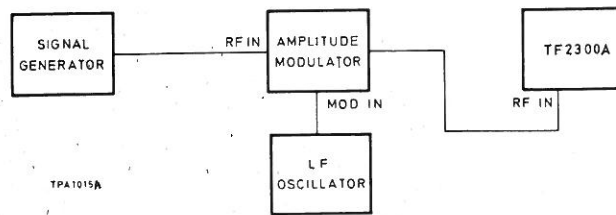

Fig. 4.7 A.M. rejection measurement
- (1) Set up the equipment as shown in Fig. 4.7. Adjust the signal generator to give a c. w. output of 100 mV at any convenient frequency. Adjust the l. f. oscillator frequency to 1 kHz at a level which gives 80% modulation as measured on the TF 2300A.
- (2) On the TF 2300A set the Function switch to TUNE and the OSCILLATOR TUNE control to give maximum meter reading. Then adjust the LEVEL control for a reading within the black arc.
- (3) Switch to F. M. - SET FREQ and adjust the